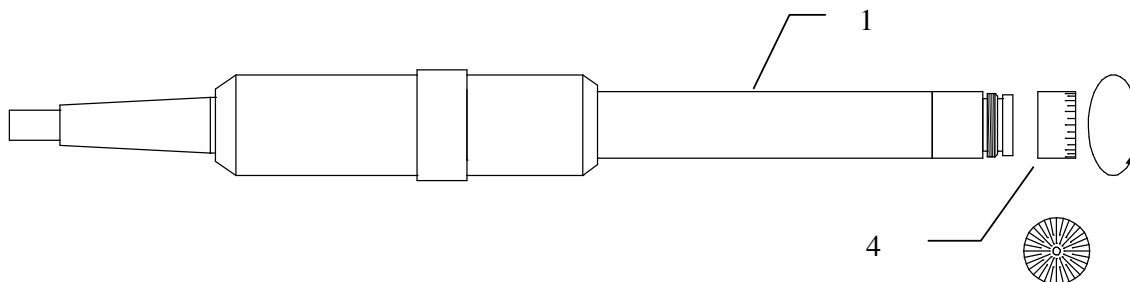

Fig. 1.3. Assembling of weatherproof accessories – step 2.
- Remove standard protecting grid (4) from WK-21 (see Fig. 1.3).